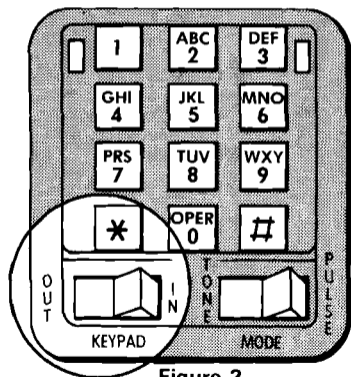

Figure 2
**3 KEYPAD IN/OUT SWITCH.** Located on the keypad bezel (see Figure 2), this white rocker switch selects either of two operating modes. When set to the IN position, the Test Set operates as a modern electronic telephone set. This mode is used for all normal communication functions. The OUT position bypasses the Test Set electronics, including the keypad. In this mode signaling is not possible, but the Test Set will operate at very low voltages, much like standard test sets currently in use. Line testing is possible in either switch position. The OUT position is recommended when testing at or near the loop limit ( $1500\ \Omega$  @ 48 VDC) or